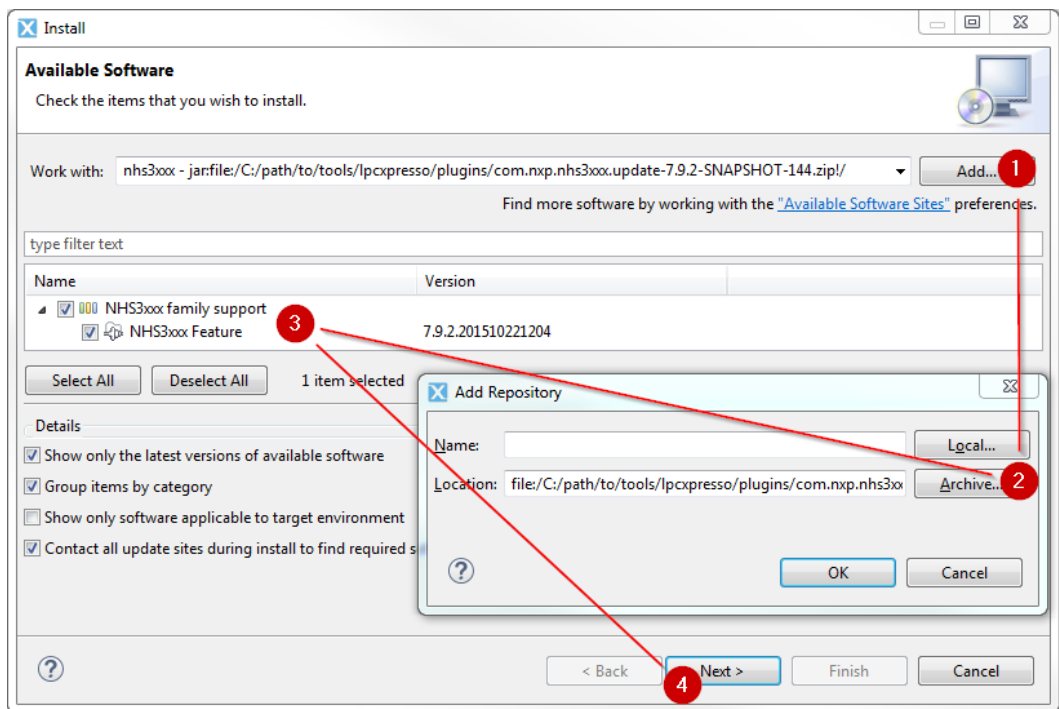

Figure 3: NHS3xxx plugin installation
- Locate the plugin *com.nxp.nhs3xxx.update-xxxxx.zip* in the SDK release under the *tools/lpcxpresso/plugins* folder by following these steps also outlined in Figure 3: *Add...* (1) the *Archive...* (2) as an *Available Software Site*, select the presented *NHS3xxx Feature* (3), and click *Next* (4).